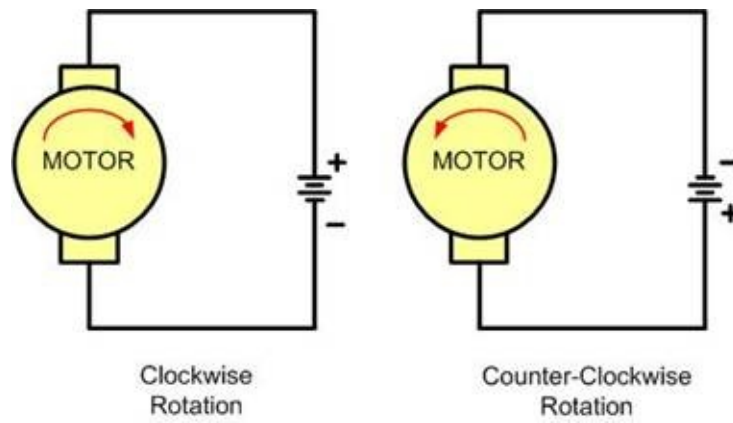

Figure 11-1: DC Motor Rotation (Permanent Magnet Field)
Figure 11-1 shows the DC motor clockwise (CW) and counterclockwise (CCW) rotations.